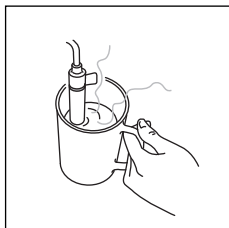

fig. 18
6. Dip the cappuccino maker into the milk (fig. 18), taking care not to immerse the raised line on the cappuccino maker.